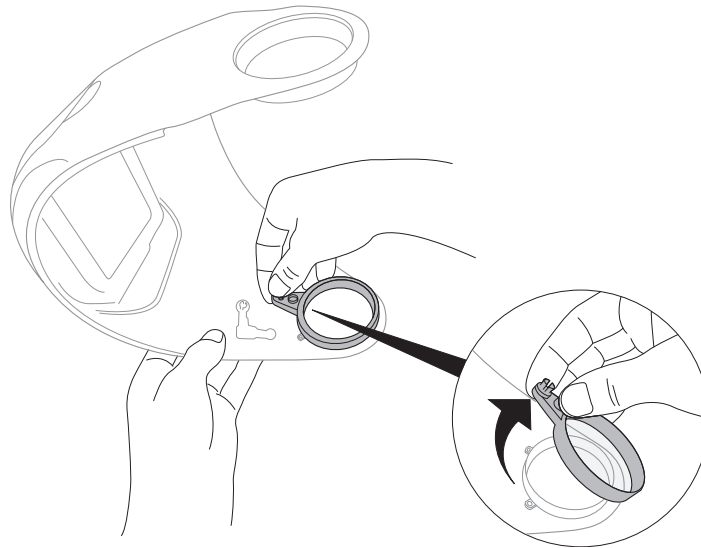

Fig. 26a
- b. Grasp the pivot ring by its pivot point and pry it off its circular post. There are small ridges that help keep the ring in place, so a small amount of upward pressure may be necessary (Fig. 26a).